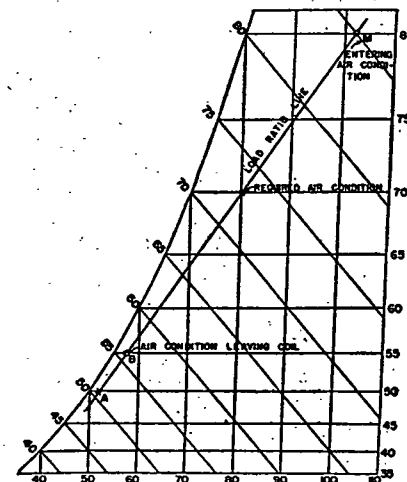

FIG. 13. PSYCHROMETRIC LAYOUT FOR COIL SELECTION
Solution: (1) Lay out the problem psychrometry as indicated in Fig. 13 and note that the minimum horizontal distance between the load ratio line and the saturation curve is 1.8 F dry-bulb at point A. Fig. 13. This means that $t_2 - t_{dp2}$ in Equation 7